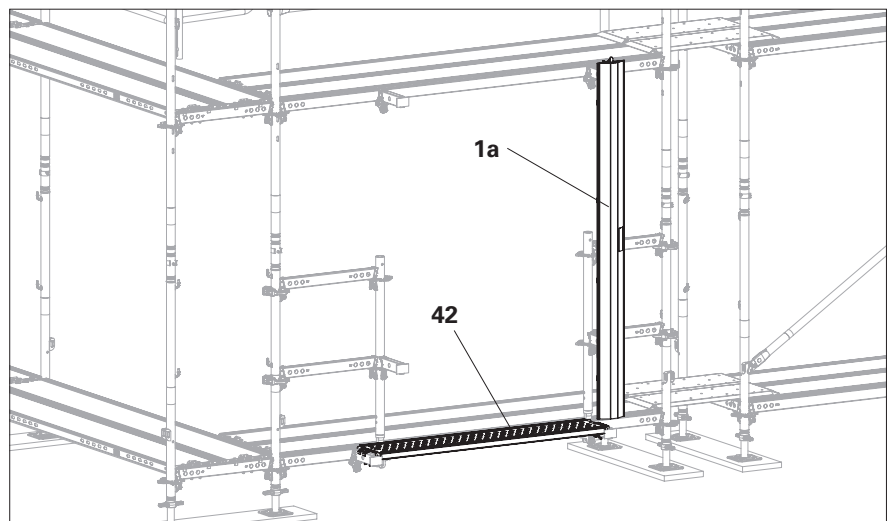

Fig. C7.03
8. Fit the Support Rail CVR 200 (**1a**) on the side on which the door stop will later be located. (Fig. C7.03)